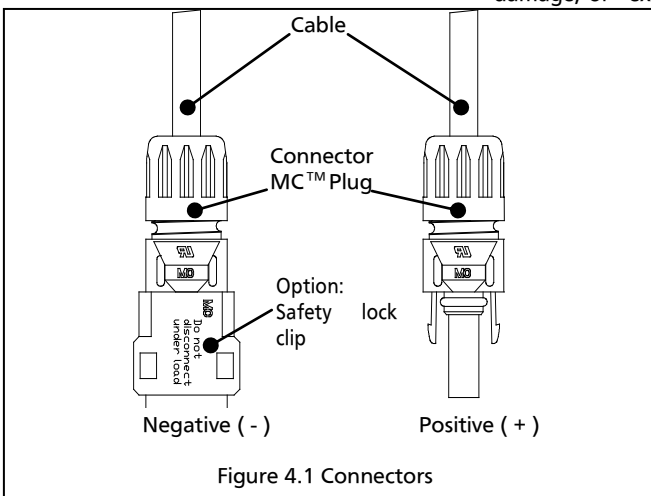

Figure 4.1 Connectors
- A junction box as a terminal enclosure is equipped for electrical connections. VBHNxxxKA01 Modules are equipped with MC™ plugs as a terminal enclosure. Use these MC™ plugs for electrical connections (see Figure 4.1).